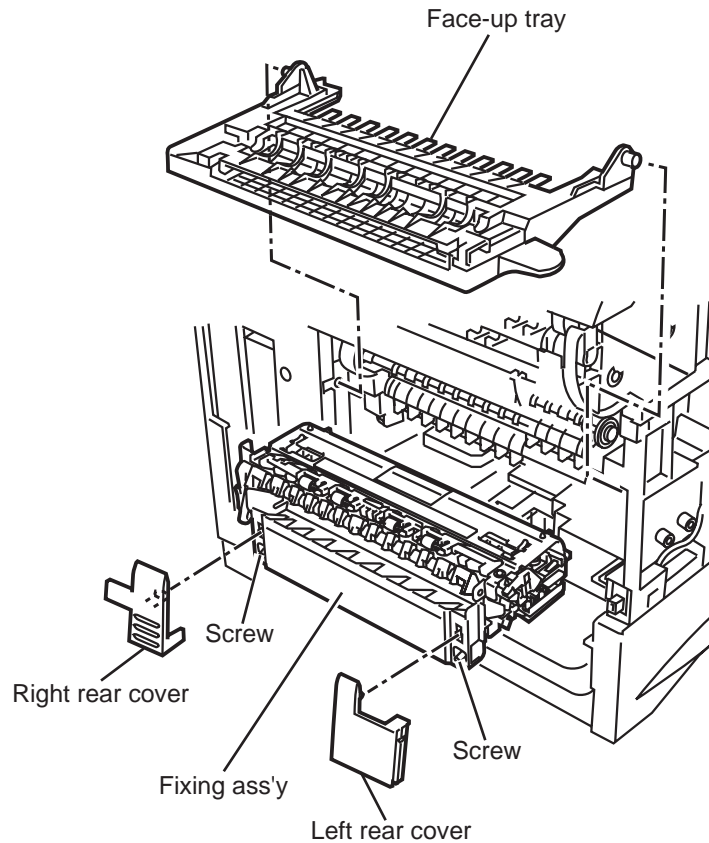

Figure 4-36 Preparation for Cleaning
- (1) Disconnect the power cord of the fax from the power source.
- (2) Refer to the Figure 4-36, 4-37 and 4-40 to remove the upper crossmember.
- (3) Remove the upper paper guide ass'y.